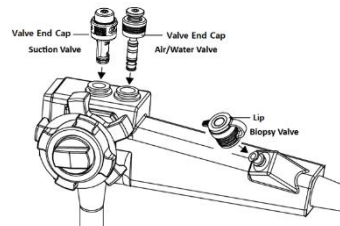

Figure 1
4. Insert the suction valve into the port of the suction channel of a Pentax® 90/ i10 endoscope (see Figure 1 below).
9. Insert the air/water valve into the port of the air/water channel of a Pentax® 90/ i10 endoscope (see Figure 1 below).
13. Securely place the biopsy valve onto the port of the biopsy channel of a Pentax® 90/ i10 endoscope (See Figure 1). **Note:** This